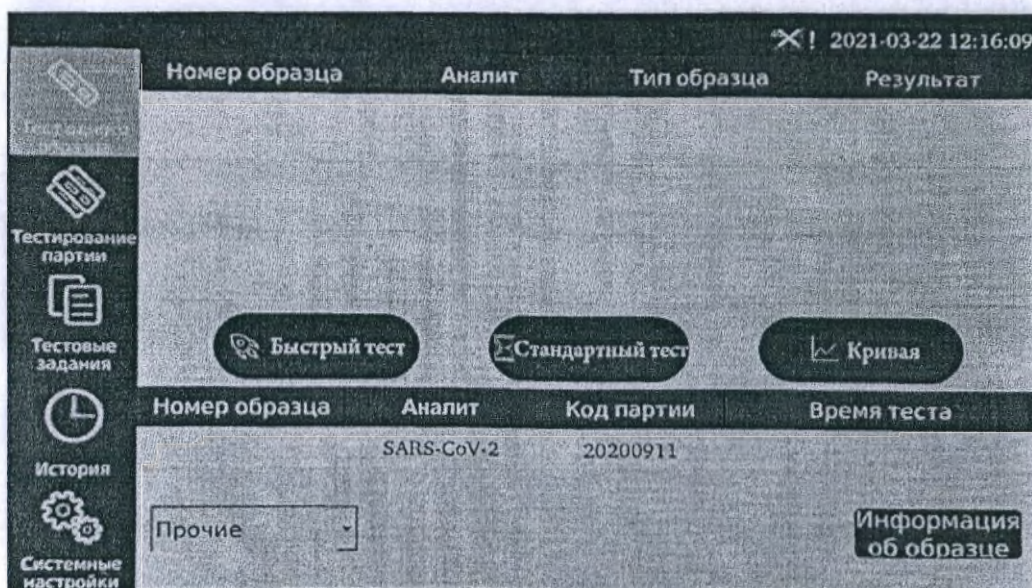

Figure 6
8.8 After turning on the power, the Analyzer goes through initialization and loading. Upon completion of a successful download, it displays its interface (Figure 6).